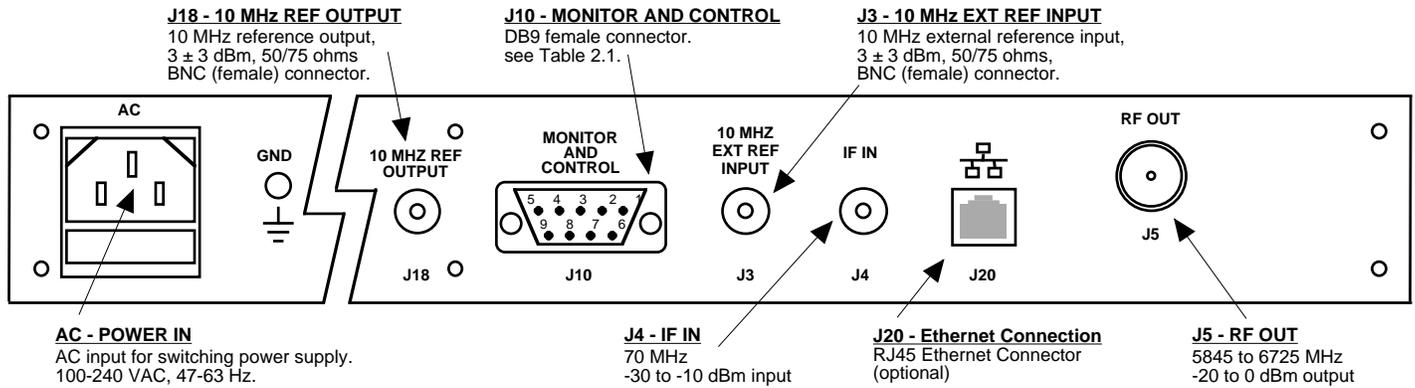

FIGURE 2.2 2015-58T Rear Panel Inputs and Outputs
2.2 Rear Panel Input / Output Signals - Figure 2.2 shows the input and output connectors on the rear panel.
1. Connect a -30 dBm to -10 dBm, 70 MHz signal to IF IN, J4 (Figure 2.2)
Alarm indications appear on the LEDs (see figure 2.2).